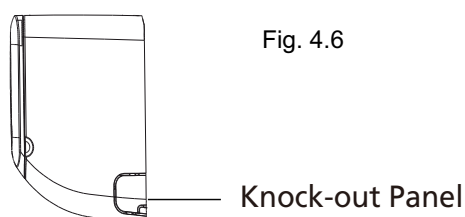

Fig. 4.6
2. If the wall hole is behind the unit, keep the knock-out panel in place. If the wall hole is to the side of the indoor unit, remove the plastic knock-out panel from that side of the unit. (See **Fig. 4.6**). This will create a slot through which your piping can exit the unit. Use needle nose pliers if the plastic panel is too difficult to remove by hand.